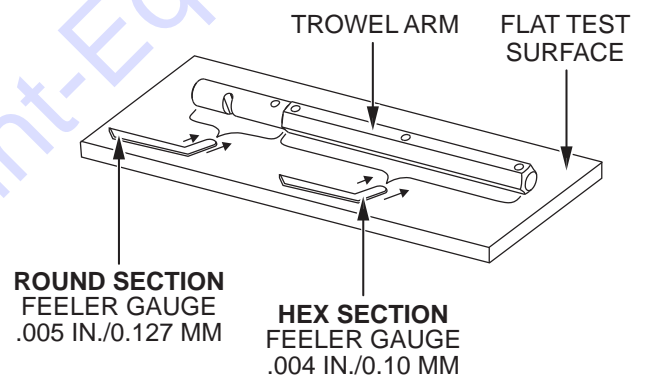

Figure 68. Trowel Arm Inspection
1. Place the trowel arm on a thick, steel plate, granite slab, or any other surface which is **true** and **flat** (Figure 68).
2. Check each of the six sides of the trowel arm hex section (Figure 68). A feeler gauge of .004 inch (0.10 mm) should not pass between the flat of the trowel arm and the test surface along its length on the test surface.
3. As the flat hex section rests on the test surface, use a feeler gauge of .005 inch (0.127 mm) to check the clearance between the round shaft section and the test surface. Rotate the arm to each of the flat hex sections and check the clearance between the round shaft and the test surface. The clearance between the round shaft and the test surface should be identical for each hex section. See Figure 68.